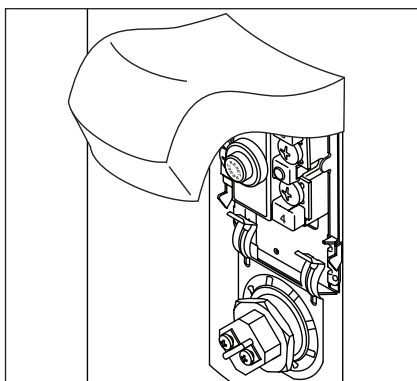

Figure 47 - Element Access Panel/ECO Compartment.
- 2 Remove the upper access panel on the water heater and carefully fold back the insulation and plastic element/ECO cover (Figure 47).